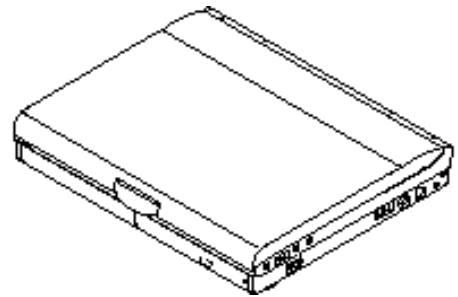

Figure 1-1 LifeBook 500 Series Computer
- LifeBook 500 Series from Fujitsu. (Figure 1-1.)